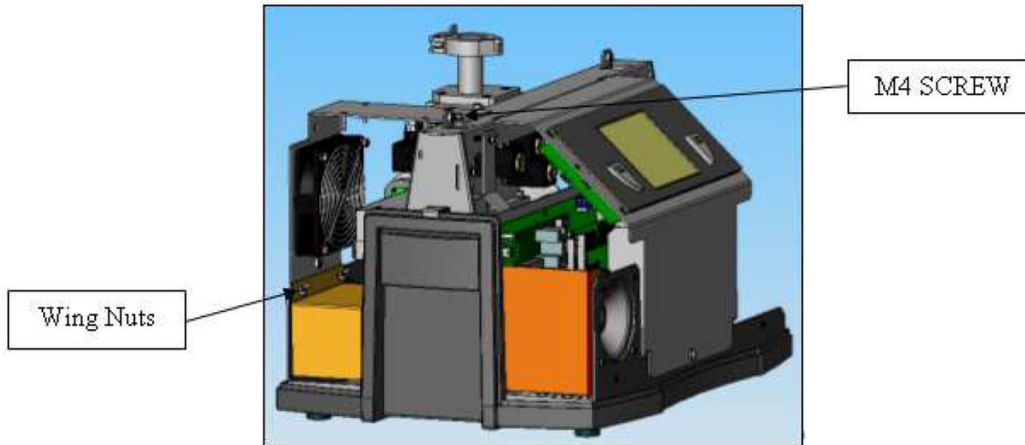

Figure 2: Fan Assembly and Socket Head Cap Screw
- 6) Detach the fan assembly by removing the M4 socket head cap screw and loosening the two wing nuts (Figure 2: Fan Assembly and Socket Head Cap Screw). Place the fan assembly on a flat surface on its back.